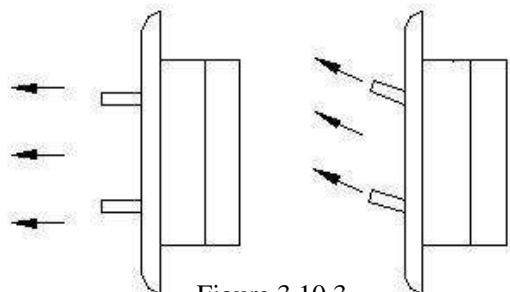

Figure 3.10.3
- (3) As figure 3.10.3 and 3.10.4, turn the wind exit to a proper direction, you can choose proper wind direction.